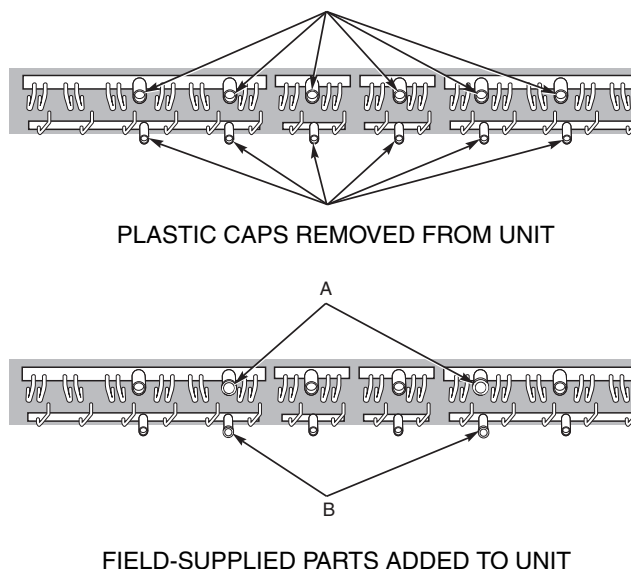

Fig. 17 — 09DK044 Unit with 40/13/13/34% Circuited
1. Remove all plastic caps. Refer to Fig. 17.
2. Attach following parts as shown in Fig. 17. Perform phos-copper brazing on all field-made connections while protecting adjacent joints from heat.
- a. Plug the open 1 $\frac{1}{8}$ -in. stub tubes at the inside of each of the large gas headers as shown in Fig. 17, Item A. Parts required:
- b. Plug the open $\frac{5}{8}$ -in. stub tubes at the inside of each of the large gas headers as shown in Fig. 17, Item B. Parts required: